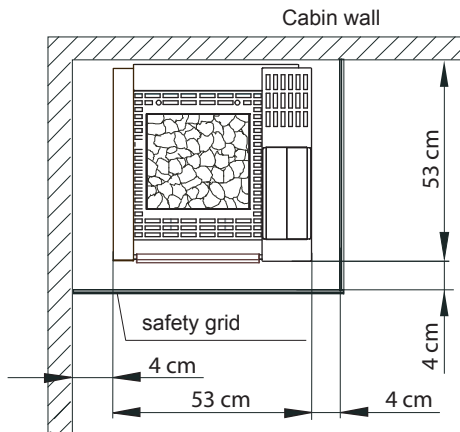

Fig. 1
- When you are assembling the sauna heater you must ensure that the vertical distance between the top edge of the sauna heater and the sauna ceiling is at least 105 cm and that the horizontal (at the side) distance between the heater and cabin wall is at least 4 cm (Fig. 1).